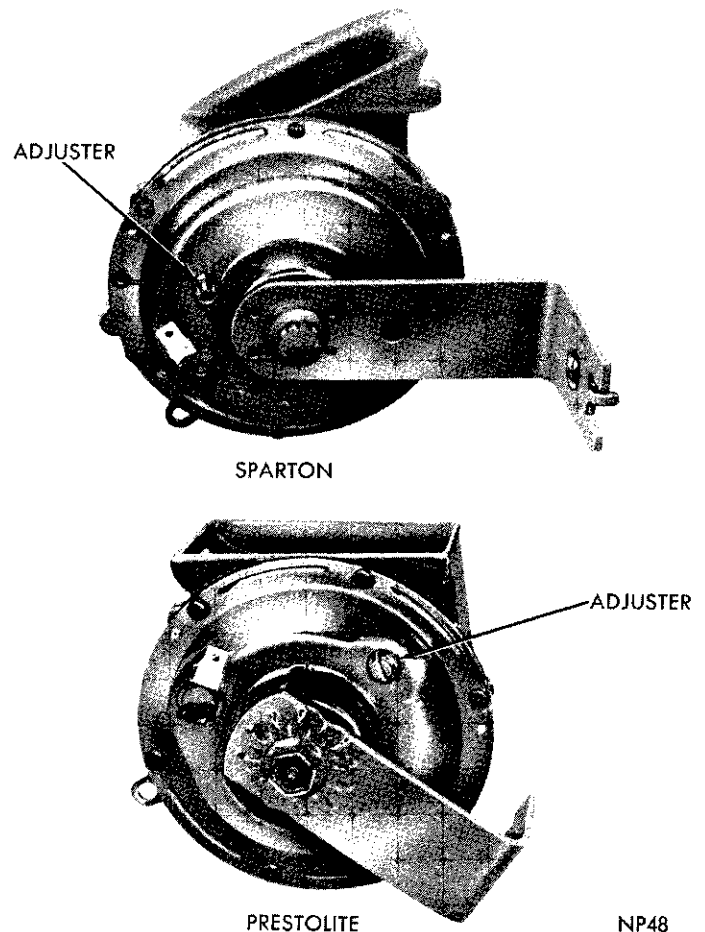

Fig. 2—Horn Adjustments
(1) Disconnect connections at each horn to determine which horn is not operating.
(2) Remove horn and bracket assembly.
(3) With a suitable tool (Fig. 2), turn tone adjuster counterclockwise until there is no vibration (sound).
(4) Turn tone adjuster clockwise, approximately 1/4 turn at a time until tone has a clear mellow sound. Do not turn tone adjuster while horn is sounding.